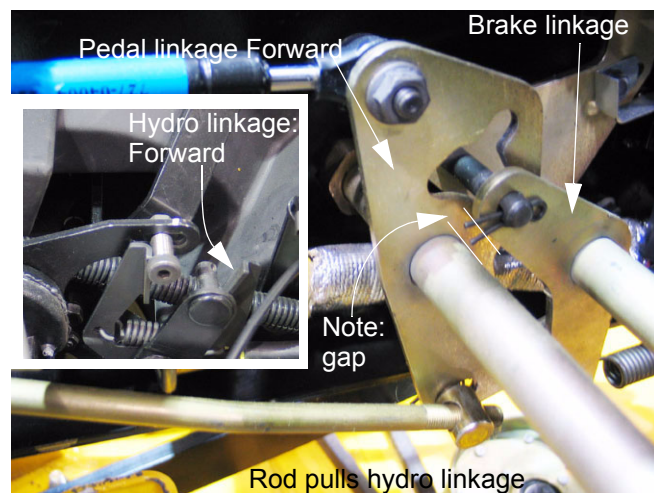

Figure 3.3
- 3.3. Confirm that full travel is achieved in the forward direction. See Figure 3.3.